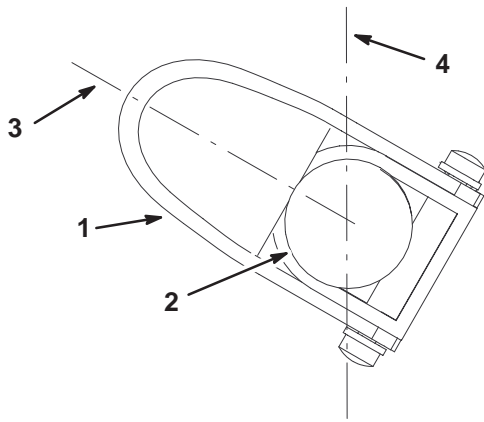

Figure 7
2. Position the latch lever at the 10 o'clock position when looking at the end of the handle (Fig. 7).